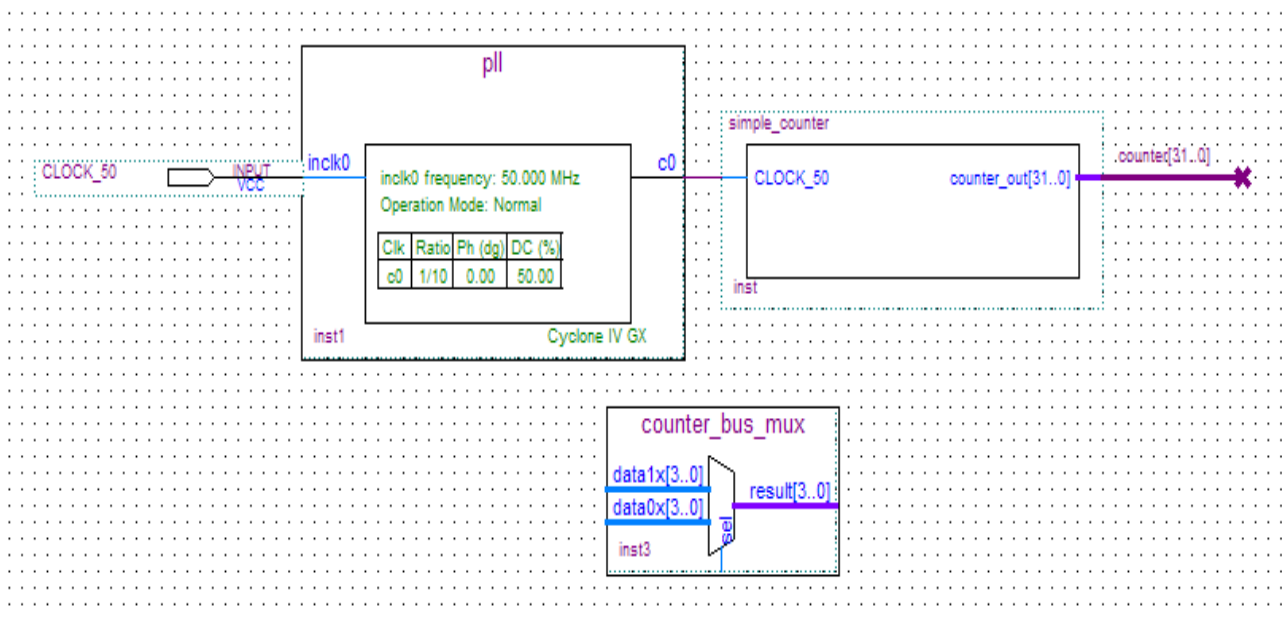

Figure 3-25 Place the lpm_mux symbol
12. Place the counter_bus_mux symbol below the existing symbols on the BDF. See Figure 3-25